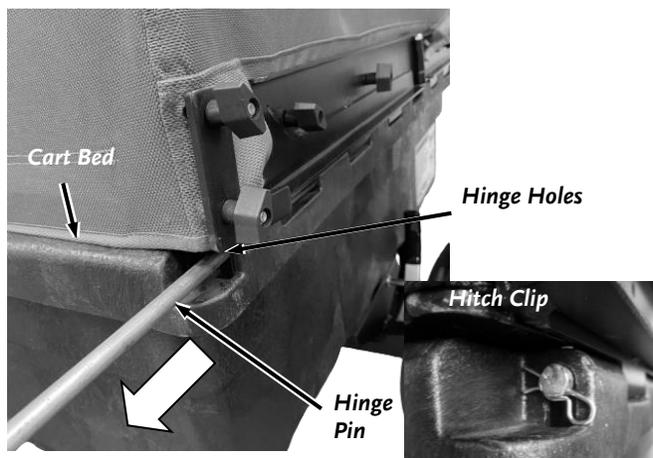

Figure 90
6. Remove the Hitch Clip from one end of the Hinge Pin and from the other end pull the Hinge Pin from the Cart/Enclosure Hinge (**Figure 90**).